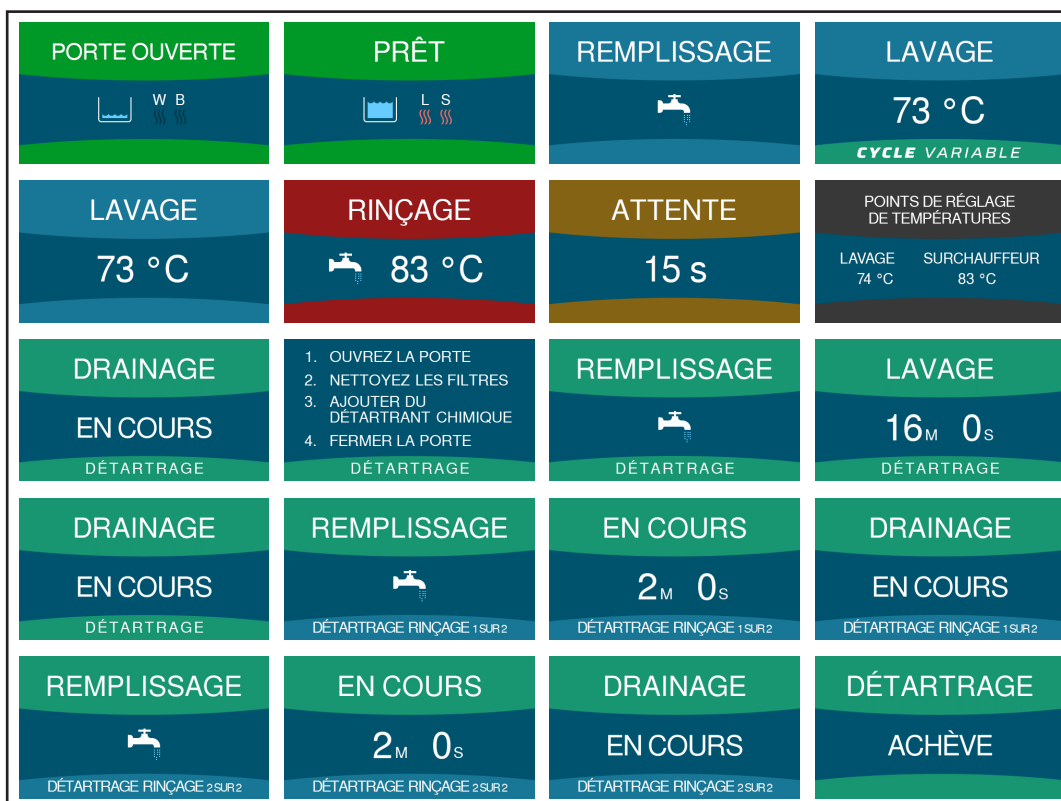

Fig. 30 - French Display Screens
3. The LCD screen will display dishwasher status in French if Dip Switch 5 is in the closed position. See Fig. 30 below for French language screens of those found in the Operation section (see page 34) and Cleaning and Maintenance section (see page 42).